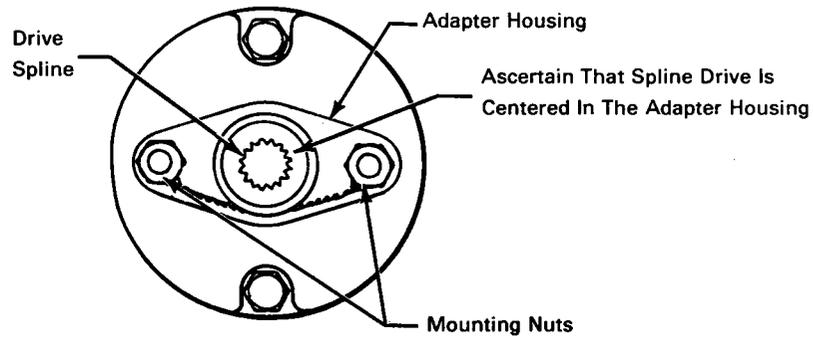

FIGURE 6
- a. Ascertain that the flap motor shaft is centered within the motor adapter housing (Ref Sketch F, Figure 6.).